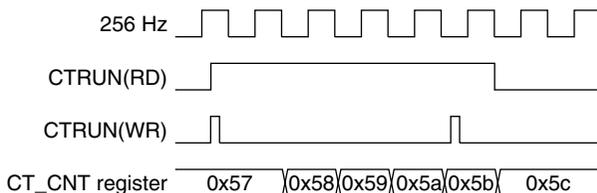

Figure 12.4.2 Run/Stop Control Timing Chart
- The clock timer switches to Run/Stop status synchronized with the 256 Hz signal falling edge after data is written to CTRUN. When 0 is written to CTRUN, the timer stops after counting an additional “+1.” 1 is retained for CTRUN reading until the timer actually stops. Figure 12.4.2 shows the Run/Stop control timing chart.